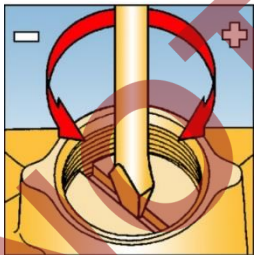

Fig. 4
5. Insert a flat bladed screwdriver into slot on the OPSS spring adjuster. See Fig. 4 HP or 5 LP.
5. Slowly turn OPSS spring adjuster anticlockwise (-) until OPSS device trips off. See Fig. 4 HP or 5 LP.